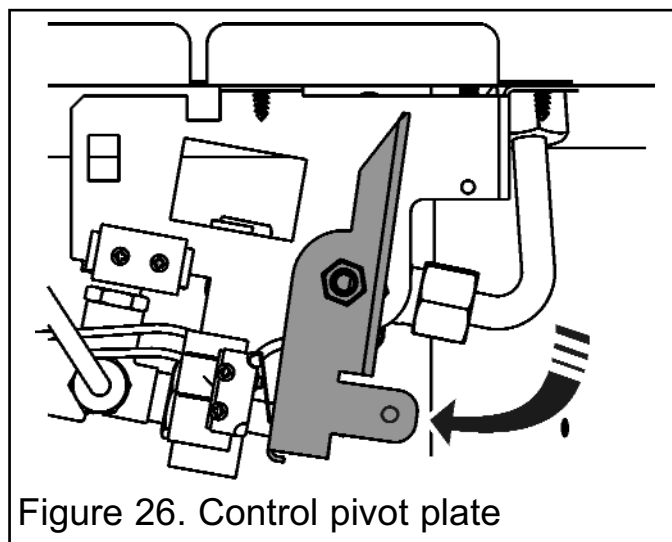

Figure 26. Control pivot plate
1. Rotate the control pivot bracket clockwise as far as it will go and hold in this position (See figure 26). This should close the ignition circuit and simultaneously open the gas tap allowing the gas to flow to the pilot. Wait a few seconds while the air is purged. The electronically generated sparks should light the pilot. The pilot should then light the main burner at its low setting. There may be a delay of up to four seconds between the pilot lighting and ignition of the gas at the main burner. This is normal and is due to the time required to fill the main burner compartment with sufficient gas for ignition.